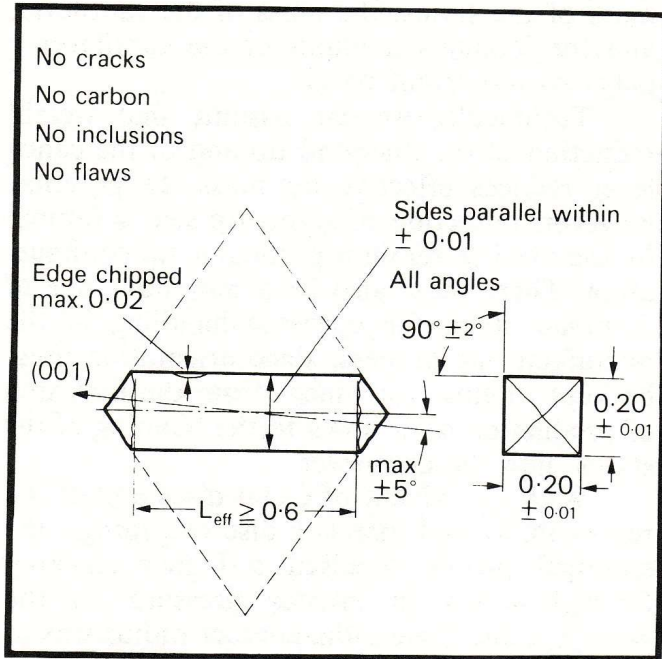
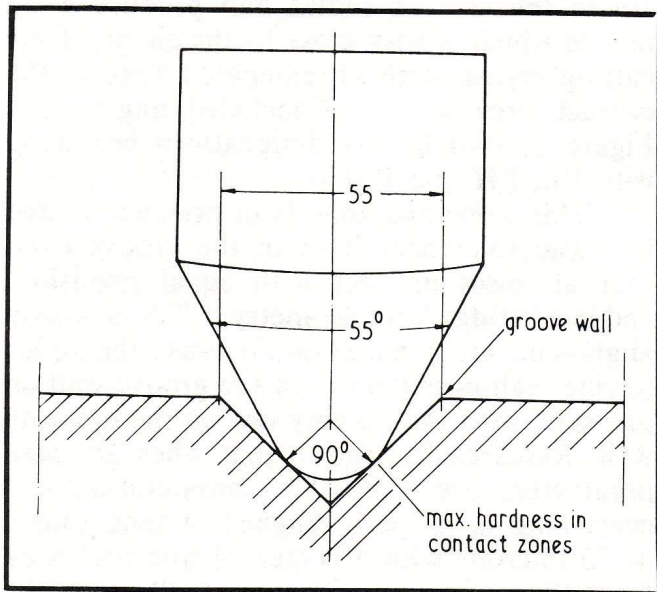

Figure 4: Specifications of oriented square rods for stylus fabrication.
Figure 5: Stylus in correct orientation with respect to groove walls.
Square-section blanks are produced in sizes ranging from 0.14 x 0.14 mm cross section by 0.50 mm length, up to 6 x 6 mm cross section by 8 mm length. The larger blanks are produced by sawing a rectangular rod from a well-formed, flawless octahedron. The starting point for the best styli consists of extra fine-quality selected natural crystals of size 100 to 400 per carat, with no chips, flaws, carbon or other inclusions. (See Figure 4.) Orientation of the longitudinal axis is normally parallel to one main axis of the diamond crystal, in other words from 4 point to 4 point or in the (001) plane in crystallographic terms. The orientation can be done by means of X-rays; however, on the smallest stones of about 0.2 mm diameter, the process takes several hours because of the low mass of the diamond to be penetrated by the X-rays and the low reflection density. This expensive orientation process ensures that the 4 point of the diamond will be well within the radius and that the 2 point (i.e., the 2-fold axis) will be normal to the groove wall when the record is played, thus presenting the hardest and most wear-resistant section to make contact. (See Figure 5.) The orientation of the 500-per-carat size is less easy, as these stones are so small that they cannot be processed into rods. Some orientation can be obtained, but it is not always possible to arrange that the point of the tip will be within  $3^\circ$  of the cube axis. The